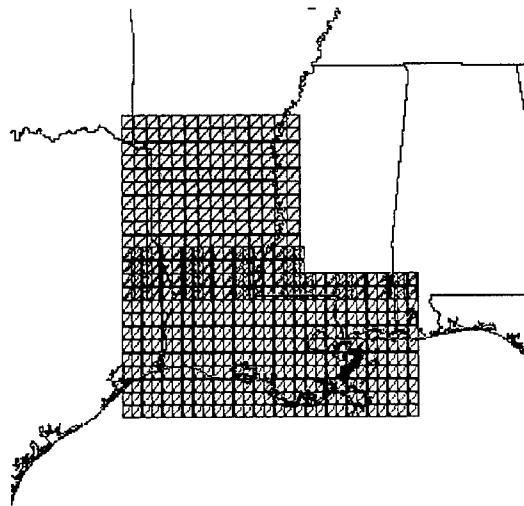

Fig. A1 — Sample MMC composition
A composition is a user-defined geographic coverage area (or set of areas) saved as a series of bitmaps (Fig. A1). A composition includes a bitmap for each contiguous geographic area, within each Tessellated Spheroid (TS) zone, and at each map scale required to build the user's AODI or MPS image. Each "bit" in the composition's bitmap(s) represents a single TS segment of CAC data (and/or DTED, if the user is designing an MPS image).